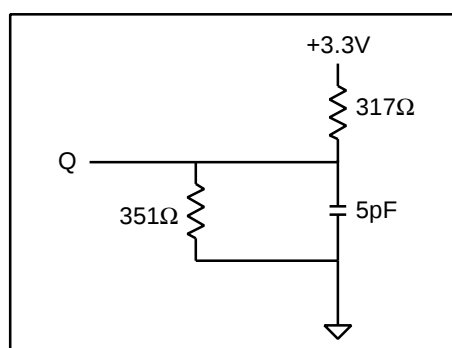

Figure 2
4. The load used for VOH, VOL testing is shown in Figure 2. AC load current is higher than the shown DC values.
2. Output loading is specified with C1=5pF as in Figure 2.